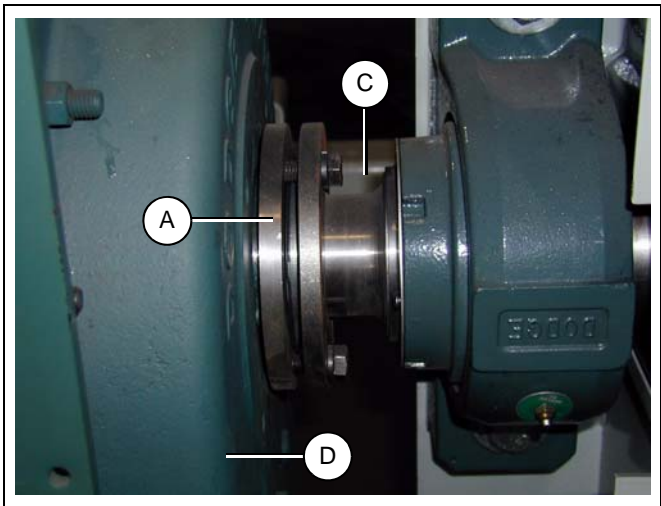

Figure 5D
- 5. Slide outside bushing onto shaft and attach to reducer drive. Once reducer drive is in place, fully tighten both bushings. (See Page 50 for more details.) (See Figure 5D.)